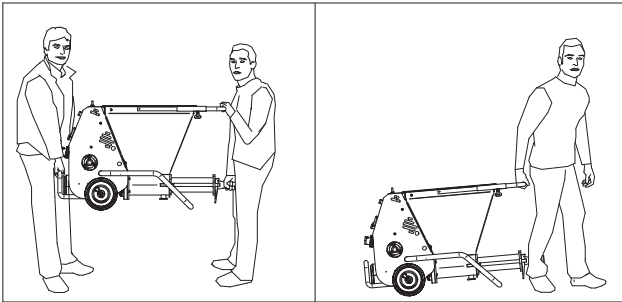

FIG.3
8. TRANSPORT (see fig.3/4)
⚠ - Caution! Never use points other than as specified in figure 3 to lift the machine.